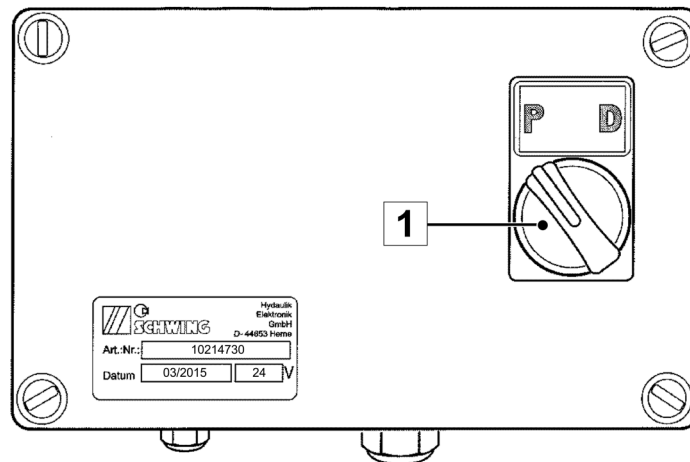

Fig. 115 E-box
- Then set the switch (1) on the e-box (**Fig. 115**) from position "D" for "Drive" to "P" for "Pump".